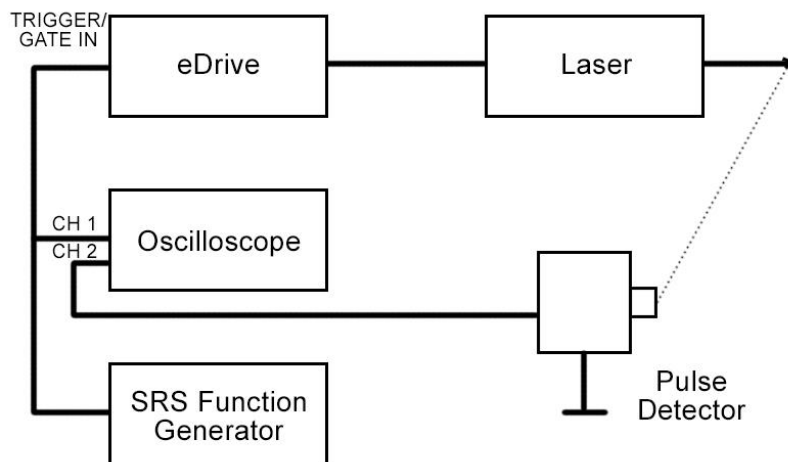

Figure 1: FPS Test Setup
2. Plug SRS into **eDrive Trigger/Gate In** (see **Figure 1** above).